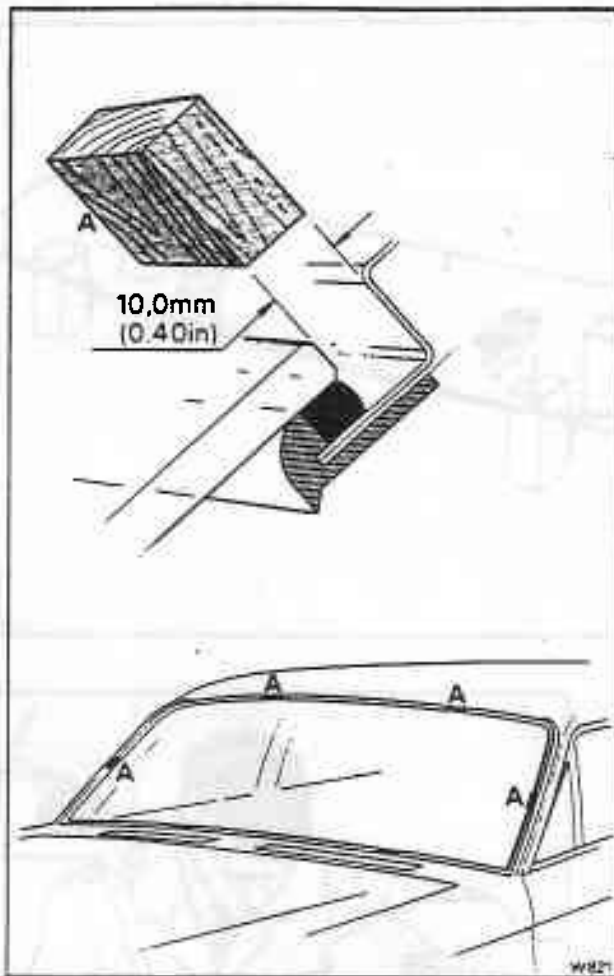

Fig. S10-10 Positioning the spacer blocks around the aperture
Assess what depth of spacer is required at the bottom of the aperture after fitting 10 mm (0.40 in) spacing blocks at the top and sides (see fig. S10-10).
11. Place the spacing blocks into position in the aperture (refer to Operation 5 and fig. S10-10).